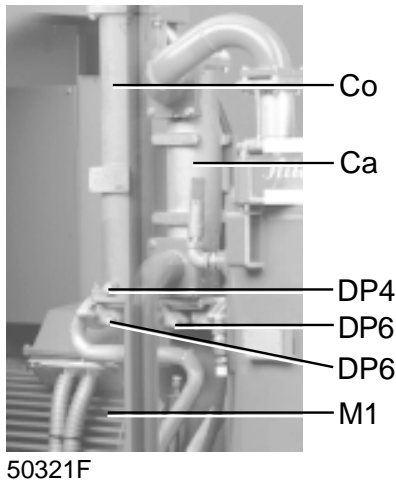

Fig. 14b GA W
- by removing drain plugs (DP6-Fig. 14b)